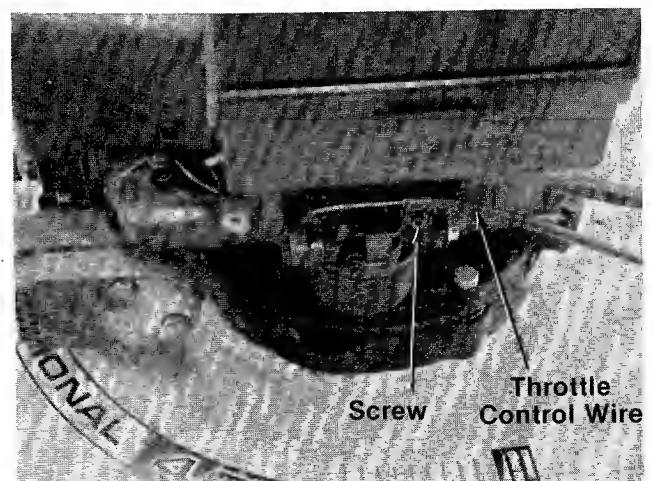

FIGURE 24.
1. Loosen, but do not remove, the screw securing throttle control wire assembly at engine. See figure 24.